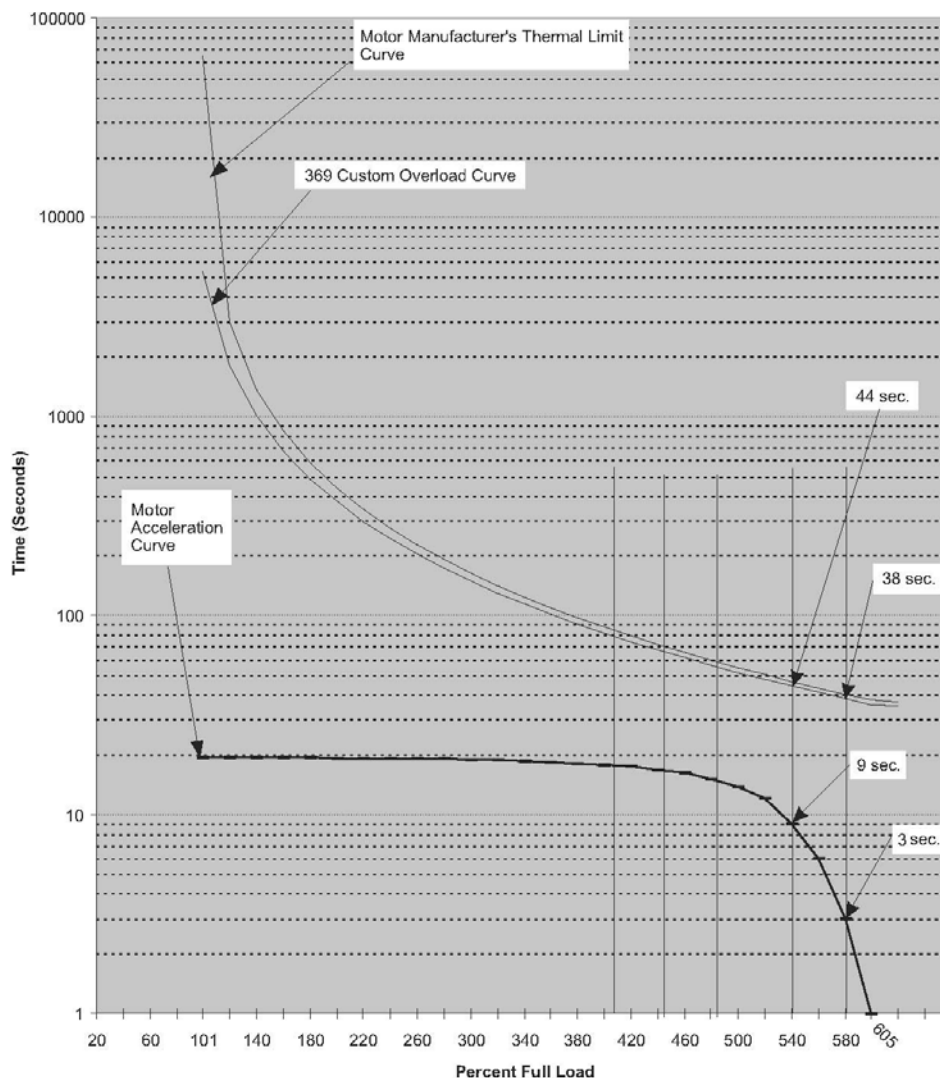

FIGURE 7-6: Thermal Limit Curves
- 4. Draw lines intersecting the acceleration curve and the overload curve. This is illustrated in FIGURE 7-6: *Thermal Limit Curves* on page 7-246.